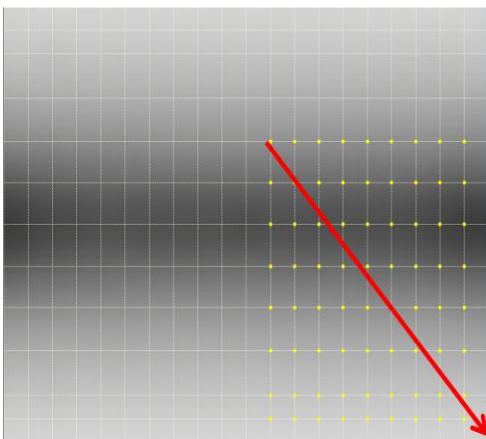

Fig 4: select points
2. Press and hold left mouse bottom, drag from the upper left to lower right (fig 4).